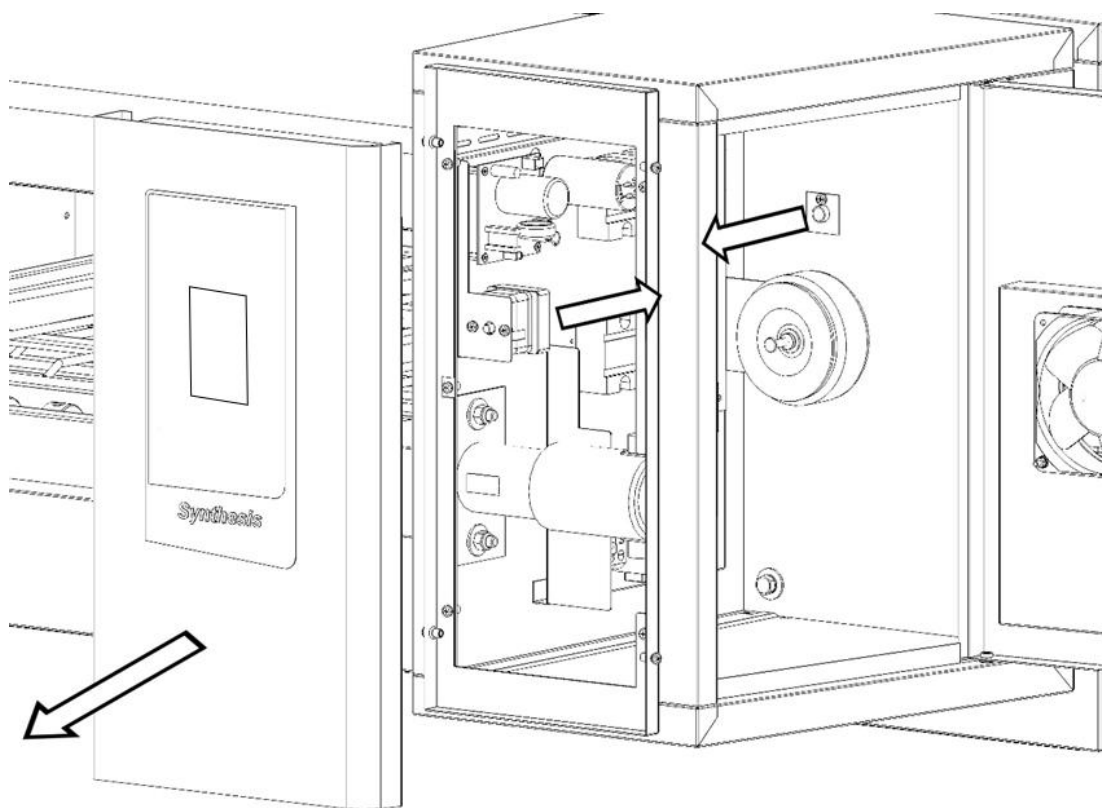

Fig.13
- 3.Disconnect the electrical connections on the thermostat (Fig.13).
- 4.Remove the silicone seal of the probe and remove the bulb, loosen the screws and replace the thermostat (Fig.13).